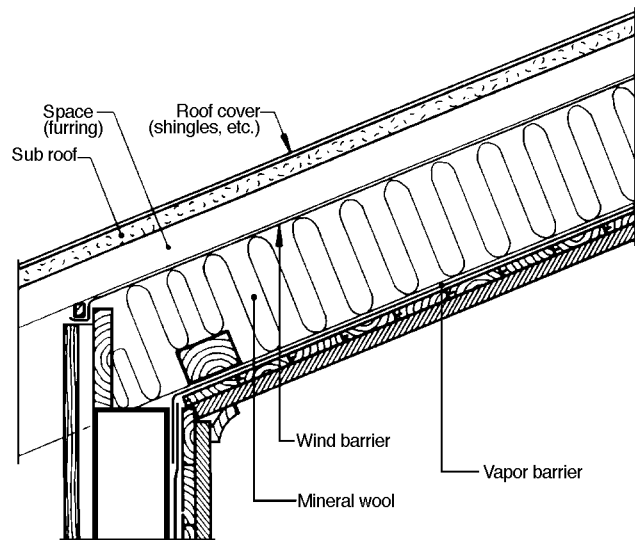

Figure 2.31
2.31 Special design considerations for preventing snow melt are needed when adding insulation from the outside of the roof. The old roof must be opened from above and new mineral wool must be placed in the area between the rafters. A wind barrier must be installed over the mineral wool. The new roofing must then be shimmed up 50 to 100 mm (2 to 4 in) to ensure sufficient ventilation (Figure 2.31).